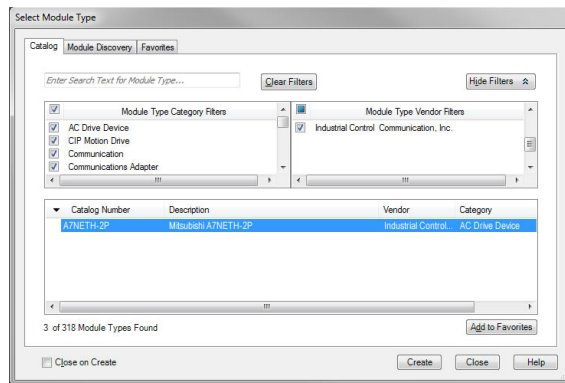

Figure 34: Adding a New Interface Card Module
- 11) Find the interface card in the “Select Module” dialog box as shown in Figure 34.